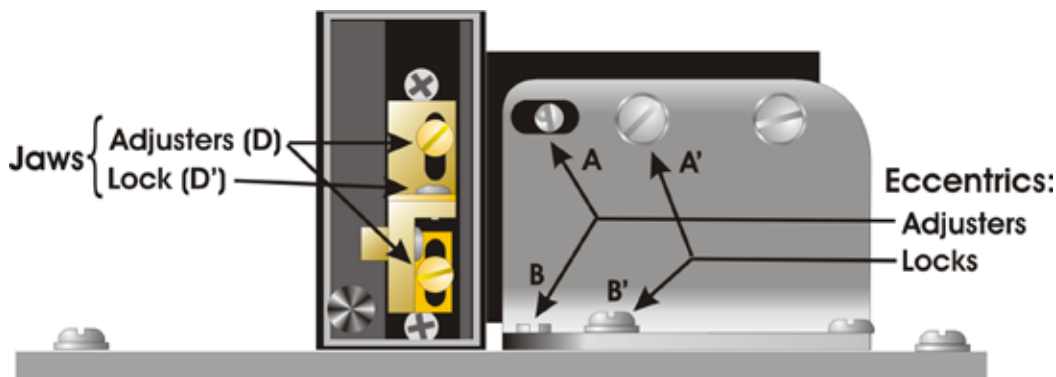

Figure 5-2. Filament alignment.
2. Loosen the two clamp screws (**D' in Figure 5-2, only one shown**) that hold the filament in place, and then slide out the old filament.
2. Locate the aluminum angle plate to the right of the filament assembly and behind the right puller bar. Two chrome eccentric screws (**A** and **B** in **Figure 5-2**) in slots are mounted on this bracket, one located on the vertical face of the bracket and one on the horizontal face. Identify the flathead locking screws to the right of each chrome screw.